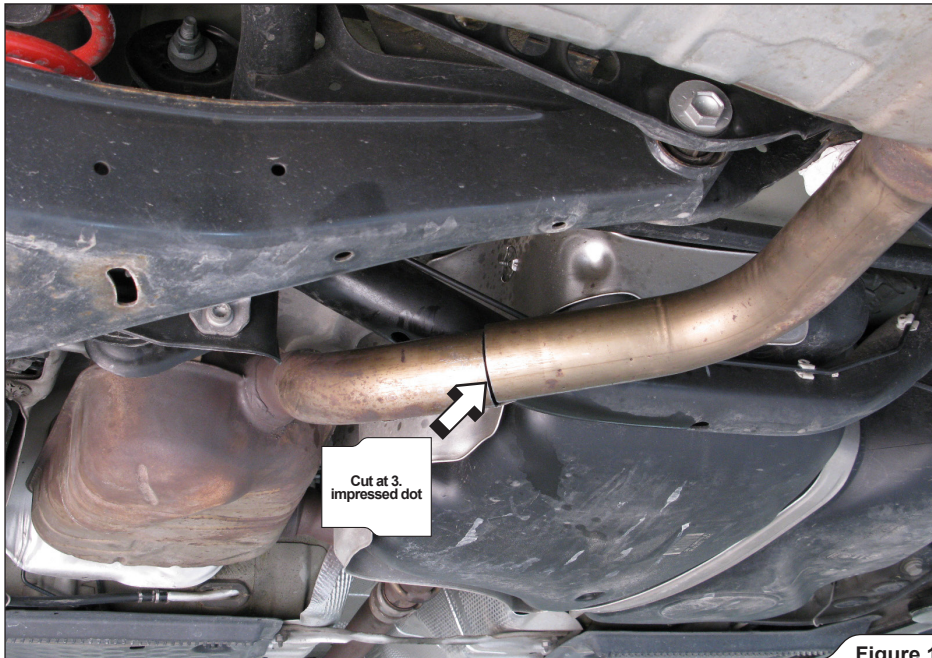

Figure 1
- 1. **For 1.4TSI model only:** mark the stock muffler's inlet pipe exactly at the **third** impressed dot. Carefully cut the pipe, using pipe cutting tool or equivalent (**Figure 1, 2**).